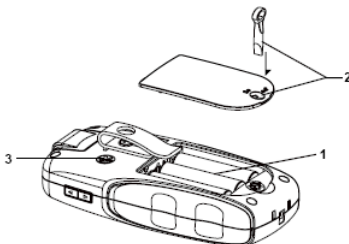

Fig.2.2 Rear Panel
- 2) **Batteries installation:** Install 3 AA alkaline batteries or rechargeable batteries lightly as indicated by the polarity signs as shown in Fig.2-2.